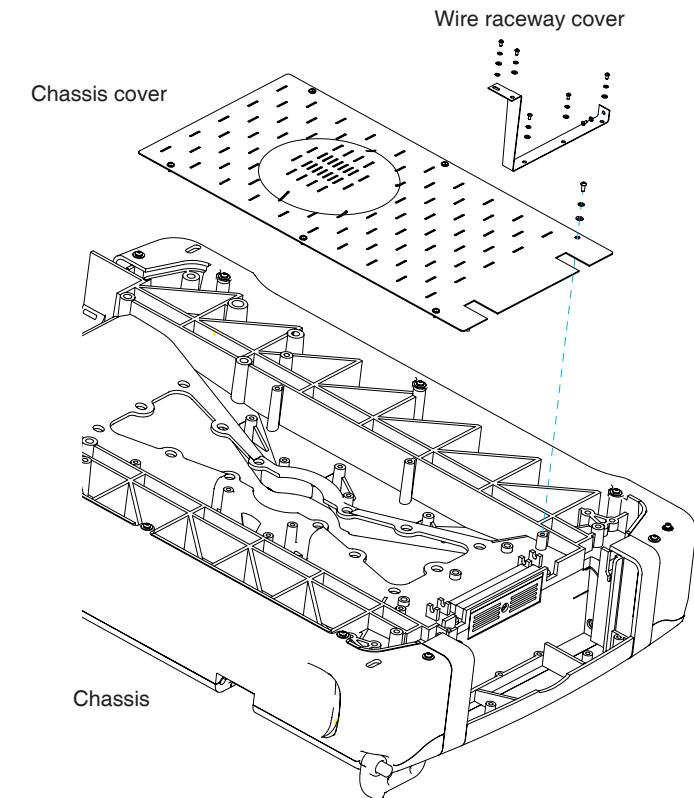

Figure 5-8
5.4.1 Removing the chassis cover with the storage drawer in place (Fig. 5-8)
5.4.7 Humidifier Repairs (Figures 5-8 and 5-9)